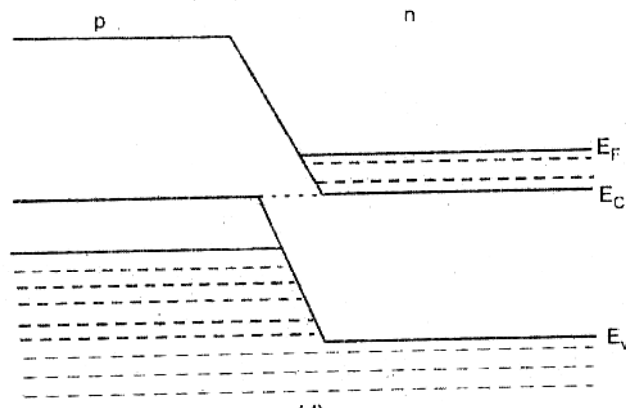

**Fig 4.19 (d) ENERGY BANDS IN HEAVILY DOPED p-n DIODE WITH FORWARD BIAS**
- \* When reverse bias is applied to tunnel diode, n-side energy levels shift downward w.r.t. p-side as shown in fig 4.19 (b)